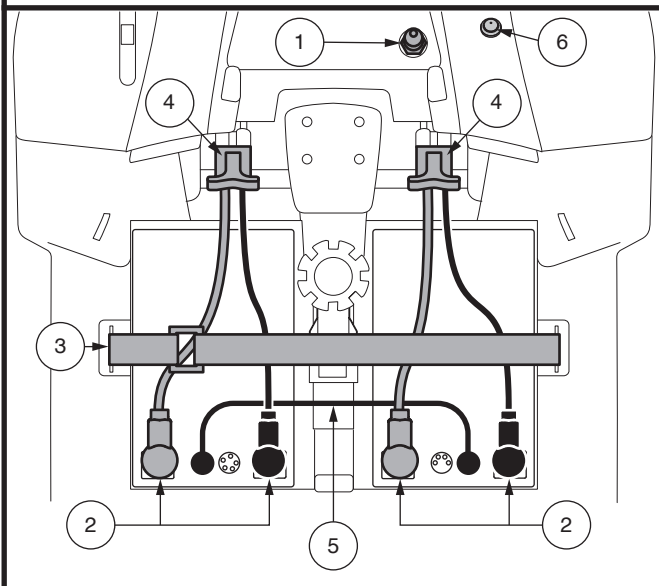

Figure 12. Battery Removal/Installation Terminals and Connections
3. Disconnect the front-to-rear harness. Unplug both battery harnesses by pulling each harness out of its mating plug. See figure 12.
6. Place a new battery in each battery well. Face the battery terminals of each battery away from the seat post with the positive (+) and negative (-) battery terminals positioned as shown in figure 12.
WARNING! When faced with an emergency situation, the batteries can be quickly disconnected by pulling **FORWARD** on the emergency battery disconnect strap. Use caution. Be advised that turning off power to the scooter may cause the scooter to stop abruptly. To release the emergency stop and restore driving capability to the scooter, remove the seat and battery shroud, and reconnect the battery connector as shown in figure 12.
NOTE: If equipped, ensure that the battery disconnect switch is in the “on” position (-) prior to charging your vehicle’s battery. The battery will NOT charge if the battery disconnect switch is in the “off” position (O). See figure 12.
WARNING! When faced with an emergency situation, the batteries can be quickly disconnected by pressing the battery disconnect switch into the “off” position, which will cause the button to pop up. Use caution. Be advised that turning off power to the scooter may cause the scooter to stop abruptly. To release the emergency stop and restore driving capability to the scooter, press the battery disconnect button once again, pressing it down into the “on” position. See figure 12.